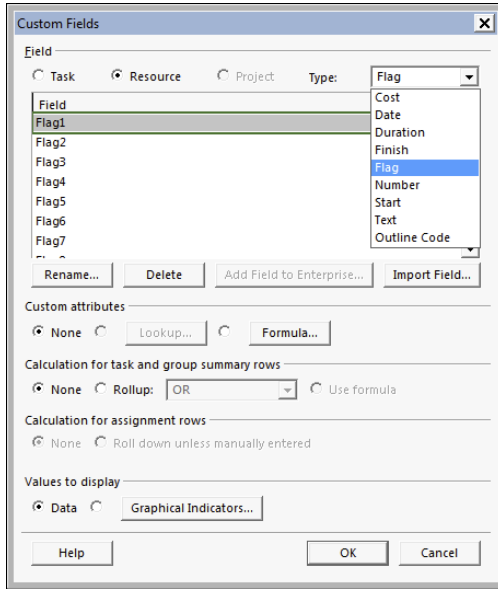

Figure 13-12:
- 3. Select the type of field you want from the list of options, as shown in Figure 13-12.**